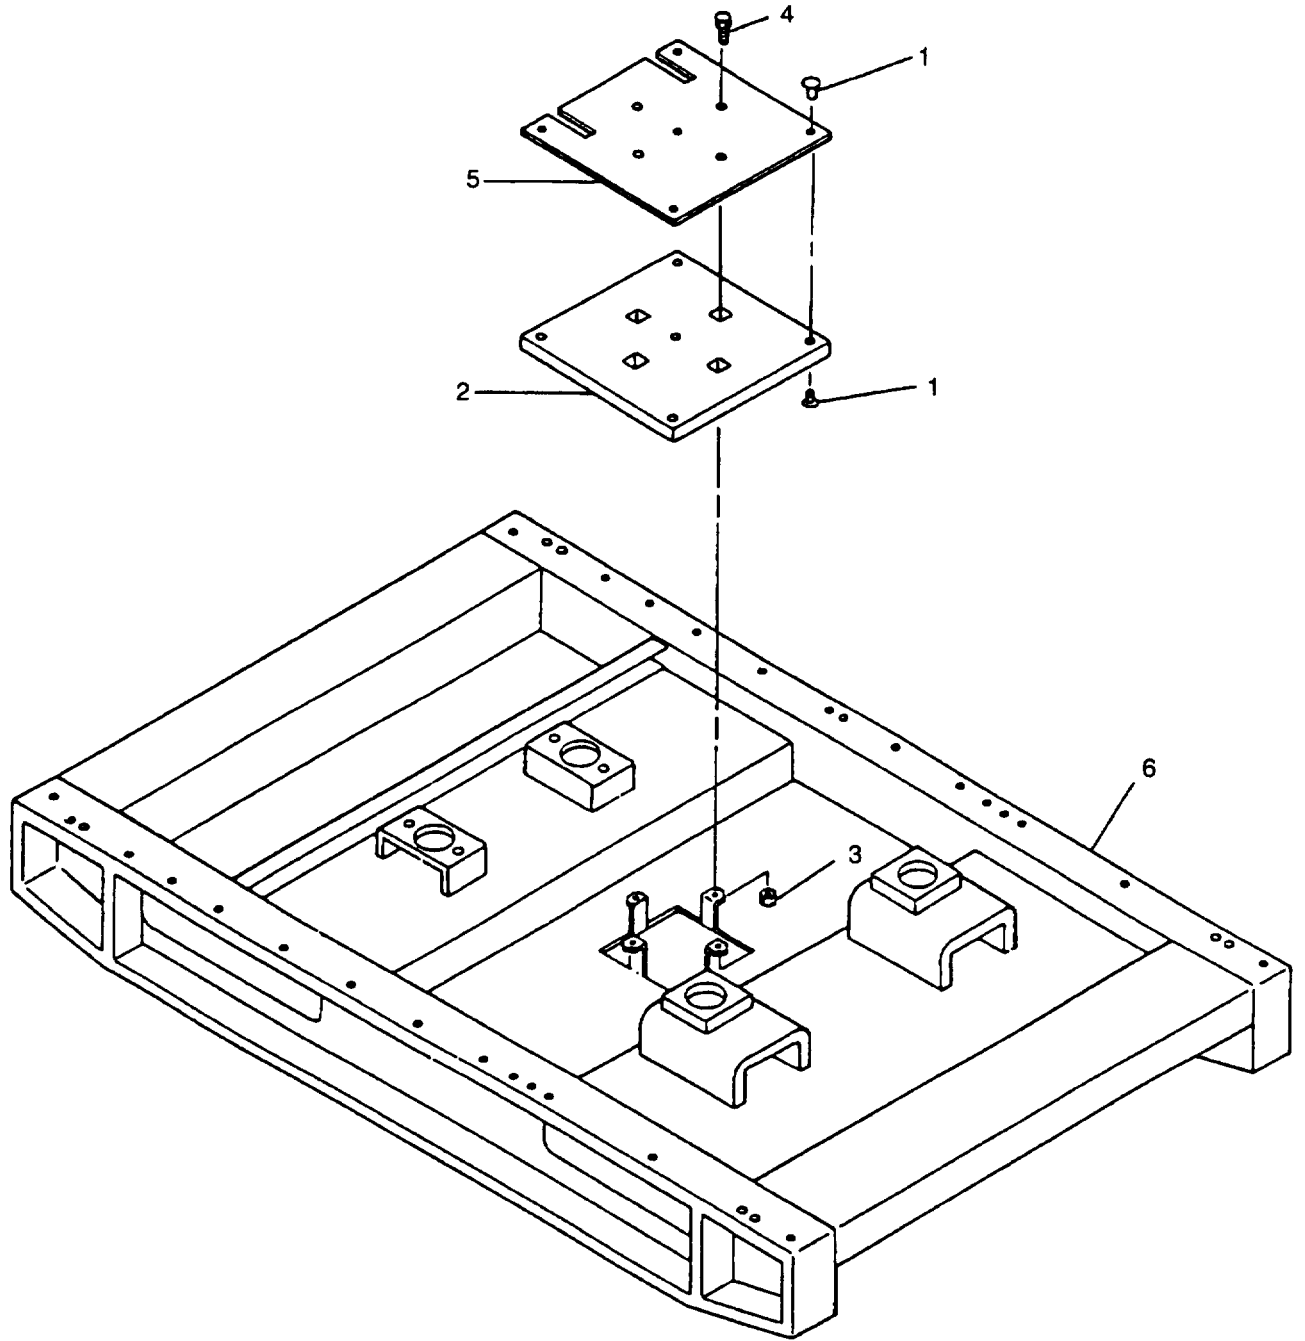

Figure 4-14. Skid Base
- f. Remove clip halves (1, Figure 4-14) and insulation (2) from plate (5).
- g. Remove nuts (3), bolts (4), and plate (5) from skid base (6).
- a. Install insulation (2, Figure 4-14) on plate (5) with clip halves (1).
- b. Install plate (5) to skid base (6) with bolts (4) and nuts (3).